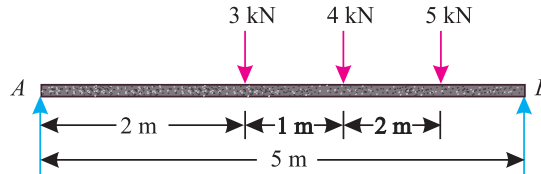

Fig. 12.7.
**Example 12.1.** A simply supported beam AB of span 5 m is loaded as shown in Fig. 12.7. Find the reactions at A and B.